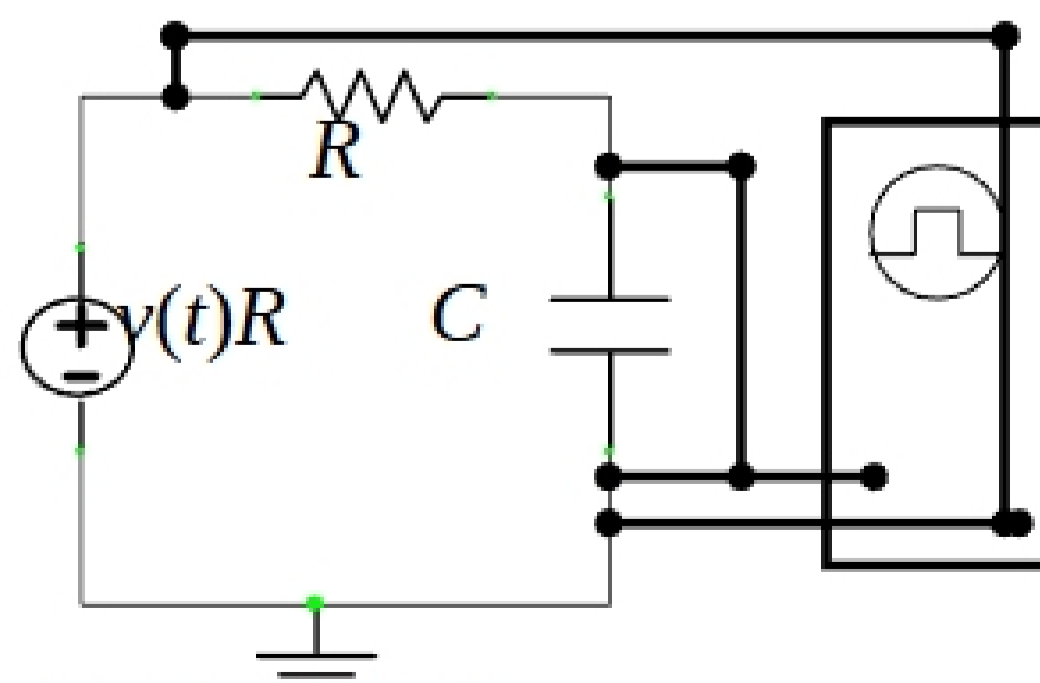

Figure 2. Circuit B
2. To use the **response model** for measurement, build Fig. 2. Use a 10V wave input (function and output be displayed the oscilloscope. frequency so the